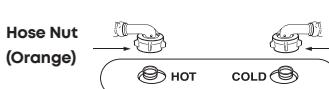

fig. 1
- Inlet hose for hot water is "Orange" hose nut, for cold water is "White" hose nut as fig1.